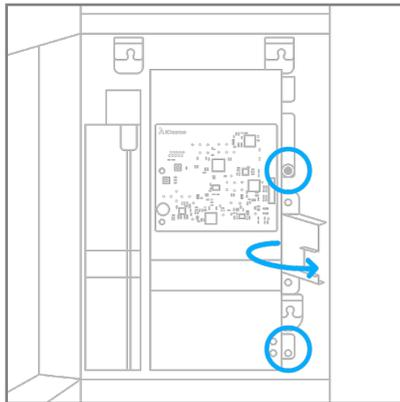
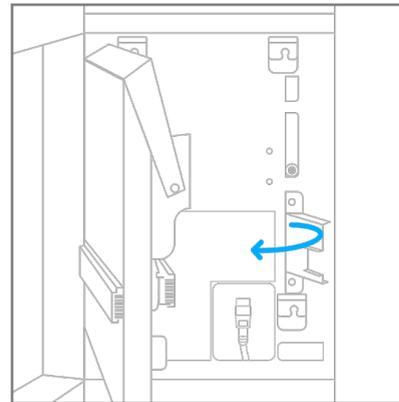

Figure 08.
Figure 09.
Step 5: Loosen the two thumb screws on the right side of the disinfection chamber. Rotate the fan duct out (Figure 08.) then rotate the disinfection chamber out to gain access to the back panel (Figure 09).